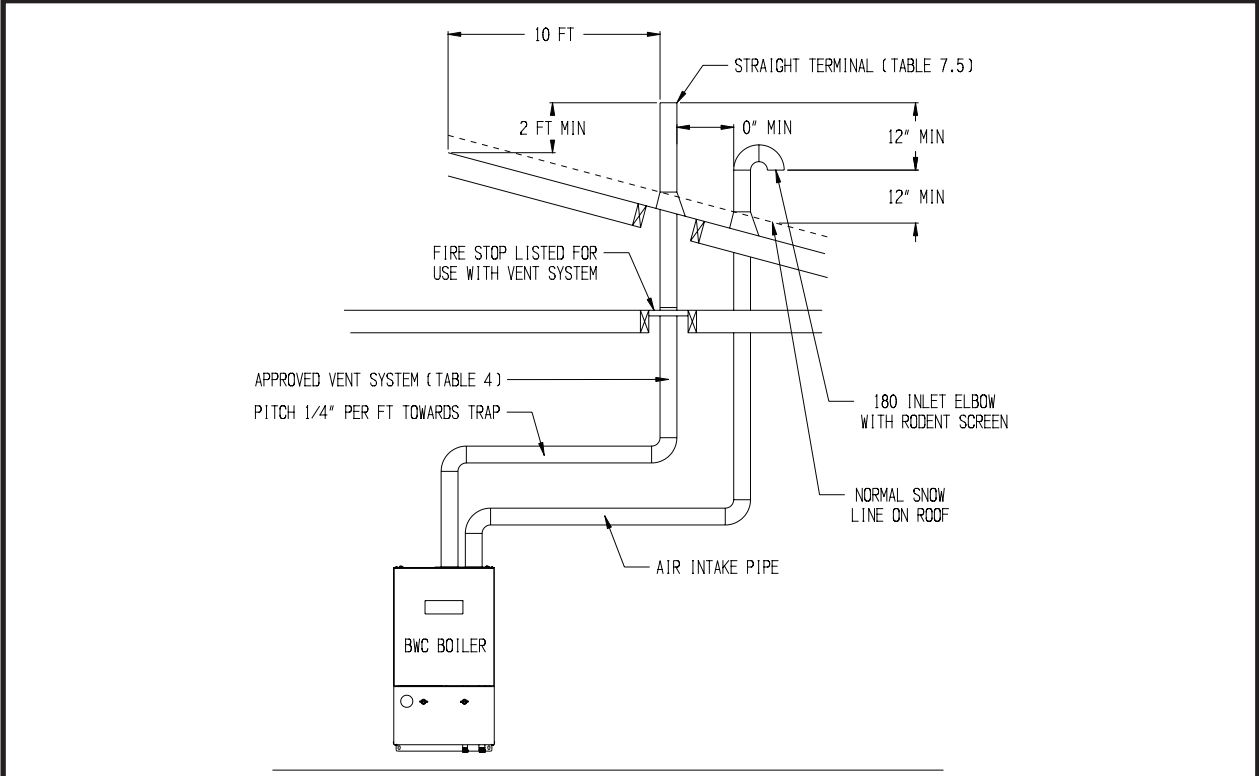

FIGURE 7.10: VERTICAL TWIN PIPE VENT SYSTEM (VENT OPTION 5)
- **Vent Option 5** - A straight termination is installed in the end of the vent pipe. Vent manufacturer part numbers for these screens are shown in Table 7.5. The air inlet terminal consists of a 180 degree elbow (or two 90 degree elbows) with a rodent screen as shown in Figure 7.10.
- 7) Vertical Vent Terminal Locations (Vent Options 5,6) - Observe the following limitations on the location of all vertical vent terminals (see Figures 7.10, 7.11):
| AIR INTAKE TERMINAL | | 3” 180° ELBOW (FIGURE 7.10) | | |